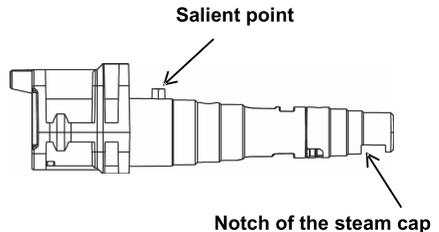

Figure 2
2. When installing the steam cap on the steam valve core, it is necessary to install it with the steam notch facing downward (Figure 2).